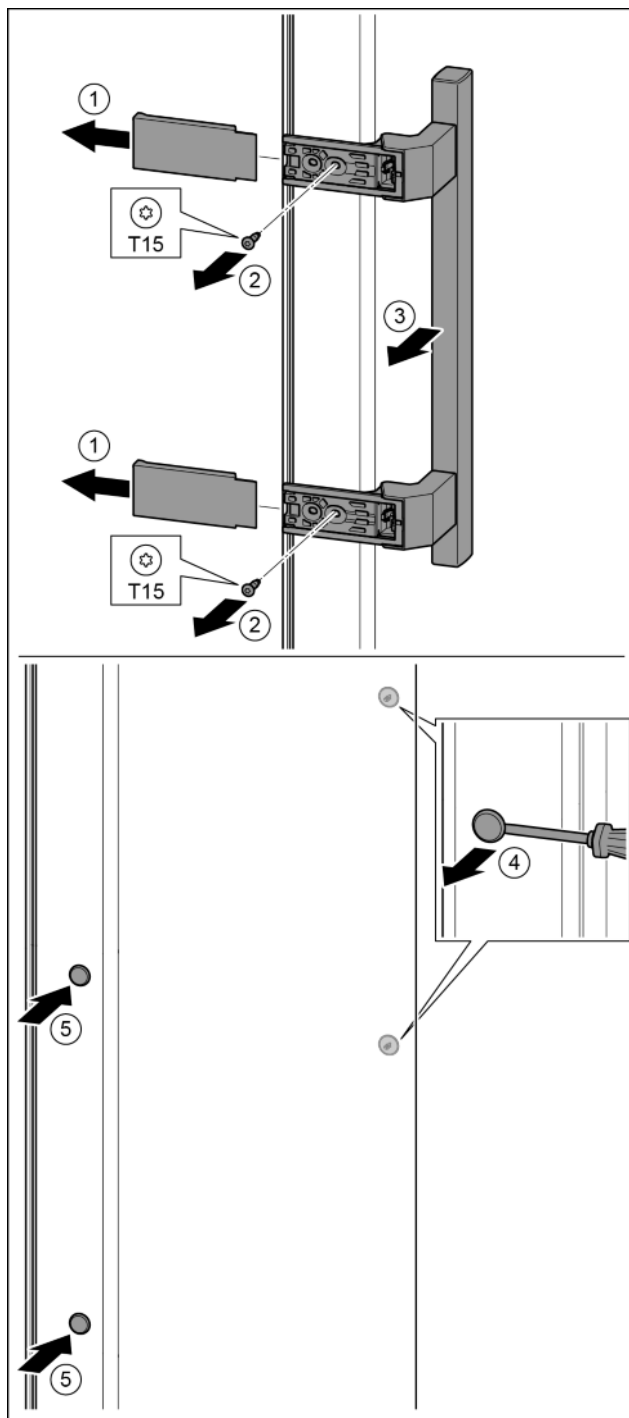

Fig. 21
- Pull off the cover. Fig. 21 (1)
- Remove the screws with the T15 screwdriver. Fig. 21 (2)
- Remove the handle. Fig. 21 (3)
- Carefully lift up the side plugs with a slotted screwdriver and pull them out. Fig. 21 (4)
- Insert the plugs again on the other side. Fig. 21 (5)